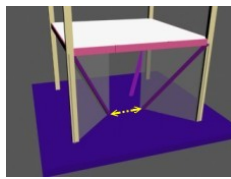
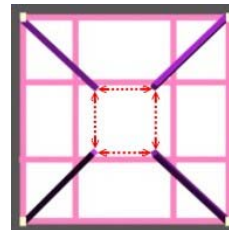

Figure 11.
Figure 12.
4.8.1 Materials inside the building, when viewed from vertical projection, need to have an opening for access, as in Figure 11. The dimensions marked by red arrows in Figure 12 have to each be at least 5 cm.